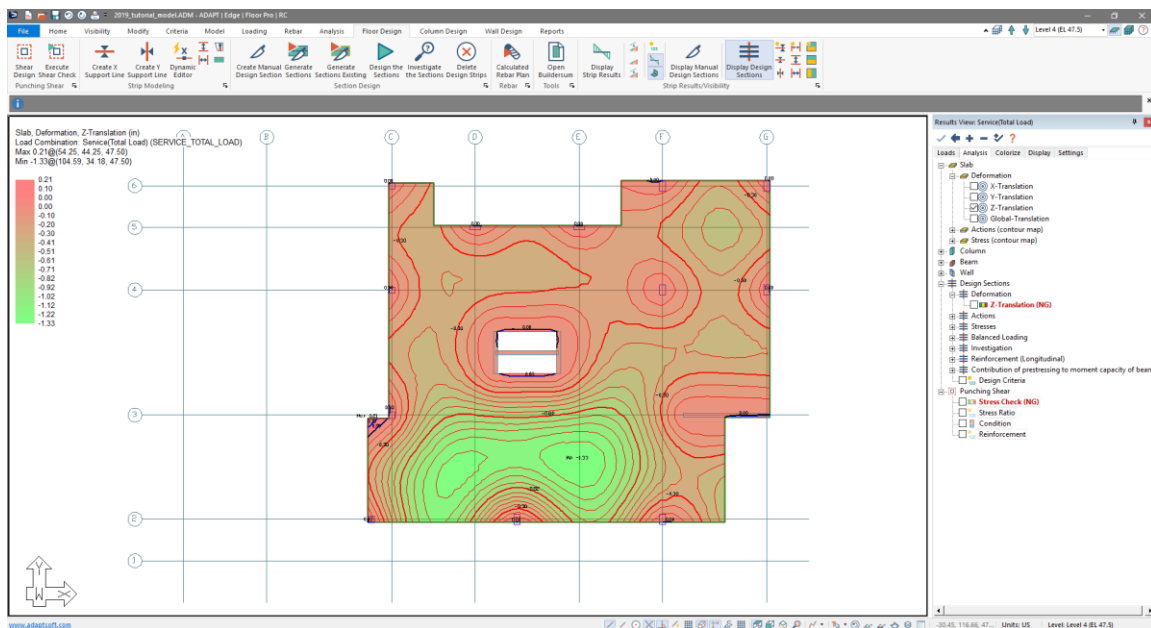

Figure 10-28
- In the *Analysis* tab tree, clear the check box next to *Design Strips* → *Deformation* → *Z-translation* and then navigate to *Slabs* → *Deformation* → *Z-Translation* and check the box next to *Z-translation*. The user should now see the contour deflection results as shown in **FIGURE 10-28**.